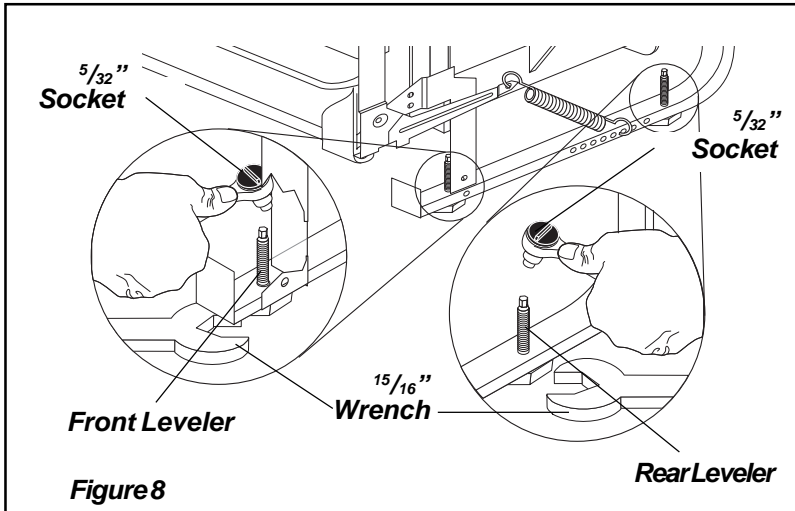

Figure 8
- Loosen the front and rear leveling legs by turning counterclockwise. Refer to chart for number of turns. See **Figure 8**. Front levelers should allow 1/4" below underside of countertop.